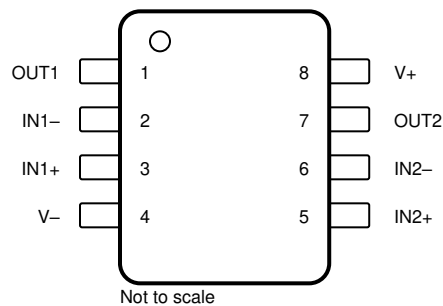

Figure 4-1. Pin Diagram (SOIC (8) and VSSOP (8) Packages)
4.1 SOIC (8) and VSSOP (8) Packages
Figure 4-1 shows the TLV9002-Q1 pin diagram for the SOIC (8) and VSSOP (8) packages. For a detailed description of the device pins please refer to the 'Pin Configuration and Functions' section in the TLV9002-Q1 data sheet.